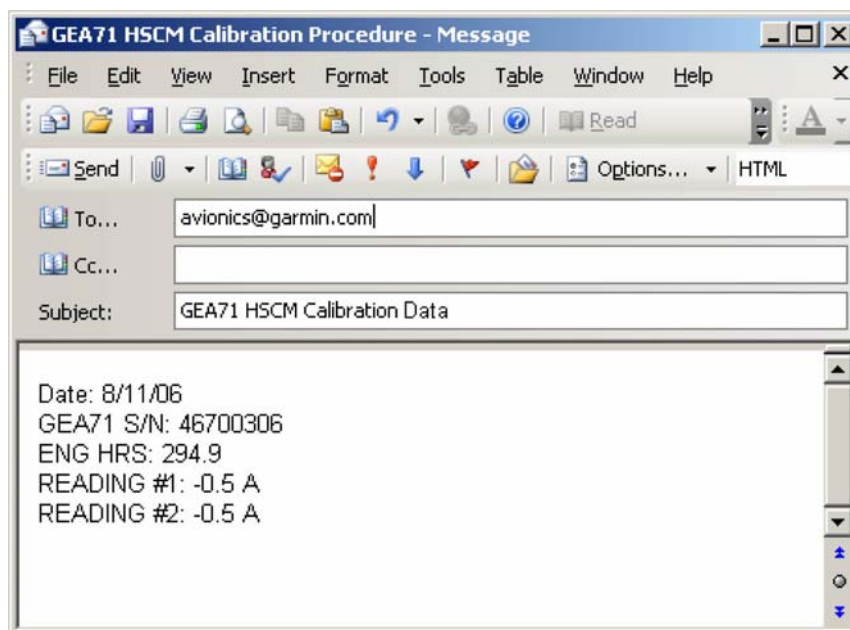

Figure 5-41. Post-Calibration Email Example
17. Email the date of calibration, GEA 71 serial number, engine hours, and value of READING #1 and READING #2 to avionics@garmin.com. Please enter “GEA 71 HSCM Calibration Data” in the subject line, as shown in Figure 5-41.